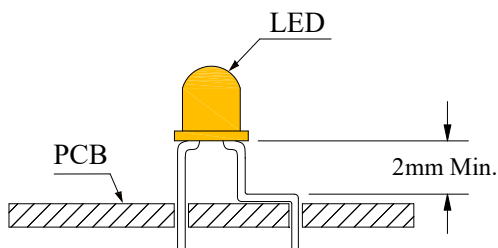

Fig. 5
4.1. Maintain a minimum of 3mm clearance between the base of the LED lens and the first lead bend. (Fig. 5 and 6)